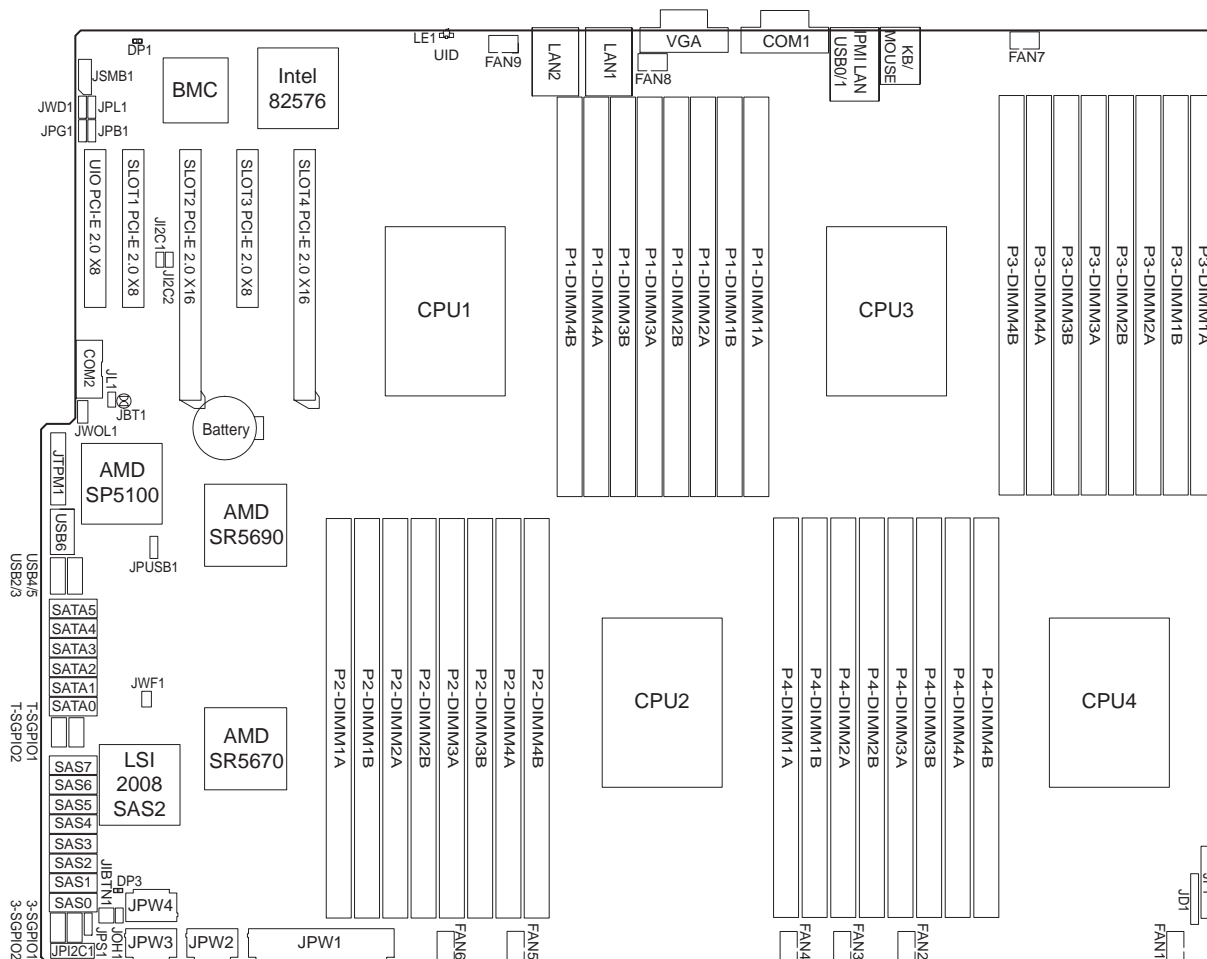

Figure 5-3 Node Board Features
- See Figure 5-3 for CPU locations on the serverboard - note that the drawing is not to scale.
- Six (6) SATA ports supported by an on-chip SATA controller (RAID 0, 1, 10 supported)
- Eight (8) SAS ports supported by an LSI 2008 SAS2 controller (RAID 0, 1, 10 supported; Raid 5 Optional) (SAS only) See Figure 5-3 on page 36
- Two (2) Fast UART 16550 compatible serial ports (one header and one port)
- Seven (7) USB (Universal Serial Bus 2.0) ports (2x rear [external], 4x header, 1x type A)
- Two (2) LAN ports supported by an onboard Intel® 82576 dual port Ethernet controller for 10/100/1000Base-T
- One (1) dedicated IPMI LAN port
- One (1) VGA port supported by an onboard Matrox® G200 graphics controller (with 16 MB DDR2 memory)